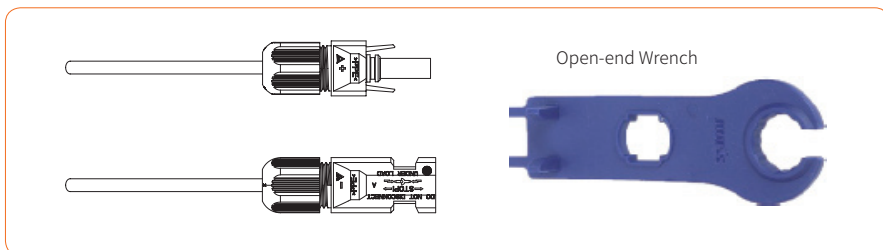

Figure 4-17
- ⑤ Insert the positive and negative cables into the corresponding positive and negative connectors, pull back the DC cable to ensure that the terminal is tightly attached in the connector.
- ⑥ Use an open-end wrench to screw the nut to the end to ensure that the terminal is well sealed, as shown in Figure 4-17: